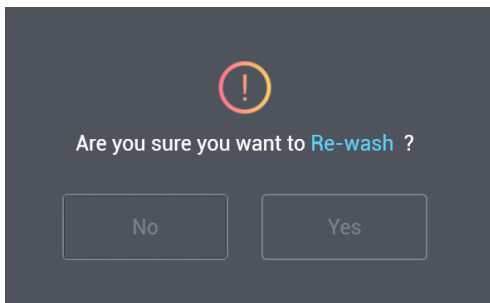

Figure 7-4: Maintenance wash end interface
- When the interface appears as Figure 7-4, click "Yes" to lift the needle and replace the cleaning cartridge.
- When the interface appears as figure 7-4, click "Yes" to lift the needle and replace the cleaning cartridge.
- When the interface appears as Figure 7-4, the maintenance wash ends.